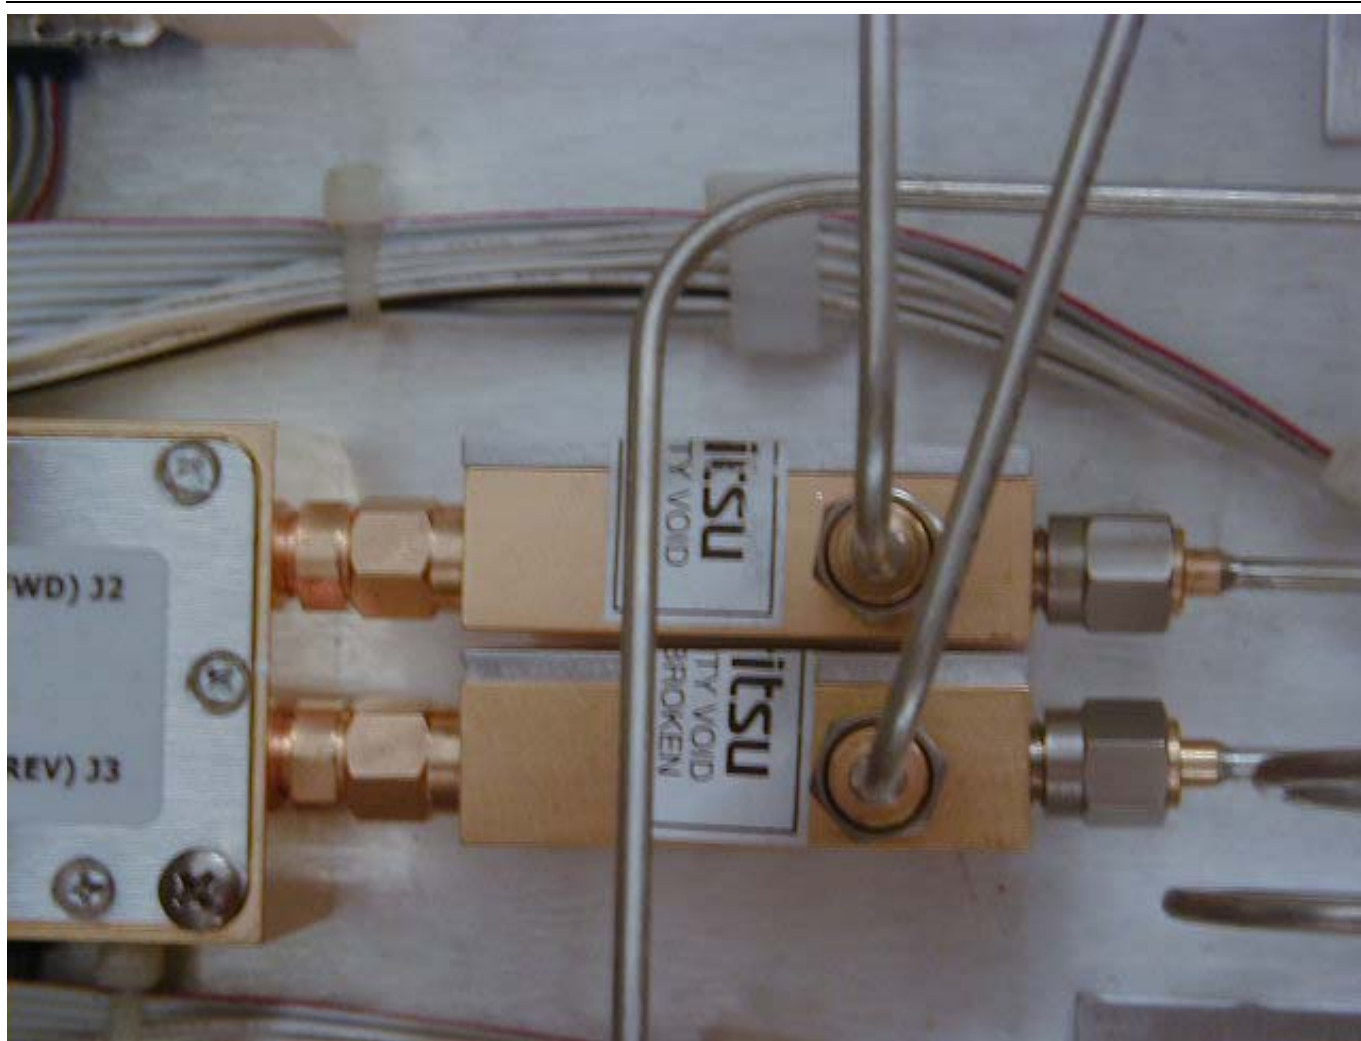

Figure 5-10. Low Band Bridges – A20 at bottom – A21 at top
- See Figure 5-10, “Low Band Bridges – A20 at bottom – A21 at top” on page 5-16 below.